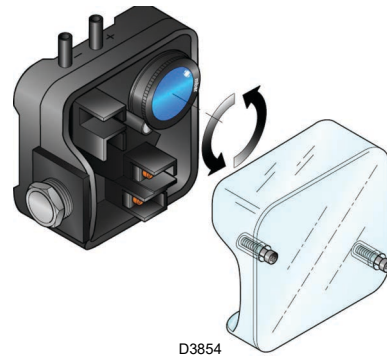

Fig. 28
- Adjust the air pressure switch (Fig. 28 on page 28) to the start of the scale.
Adjust the air pressure switch after performing all other burner adjustments with the air pressure switch set to the start of the scale (Fig. 28). With the burner operating at MAX. output, increase adjustment pressure by slowly turning the relative knob clockwise until the burner locks out. Then turn the knob anti-clockwise by about 20% of the set point and repeat burner starting to ensure it is correct. If the burner locks out again, turn the knob anti-clockwise a little bit more.